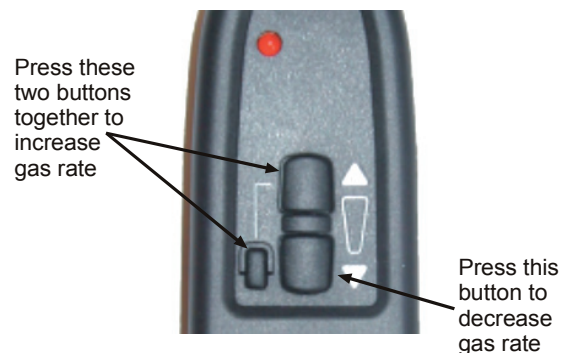

Figure 7 - Handset Operation
6. Using the HANDSET (as shown in Figure 7) press and hold **both the top and the small button together** until the main burner goes to full rate and clicking can be heard from the valve. During this process the main burner will ignite from the pilot.